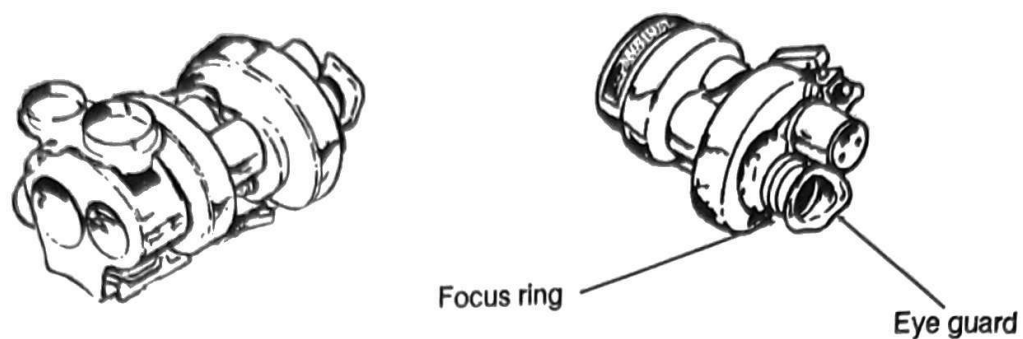

Figure 1-3. Day tracker optical sight and eye guard.
(5) The optical sight of the day tracker is a 6-power telescope. It provides the gunner with a magnified image across a 6-degree field of view to help him to locate, identify, and track targets. A fitted and molded rubber eye guard provides the gunner with eye protection and allows rapid eye adjustment to the sight (Figure 1-3). The infrared receiver consists of an objective lens assembly, graded filter, infrared detector, and nutator mirror. The sensor detects the infrared output of the missile flare and discriminates against background signals. It